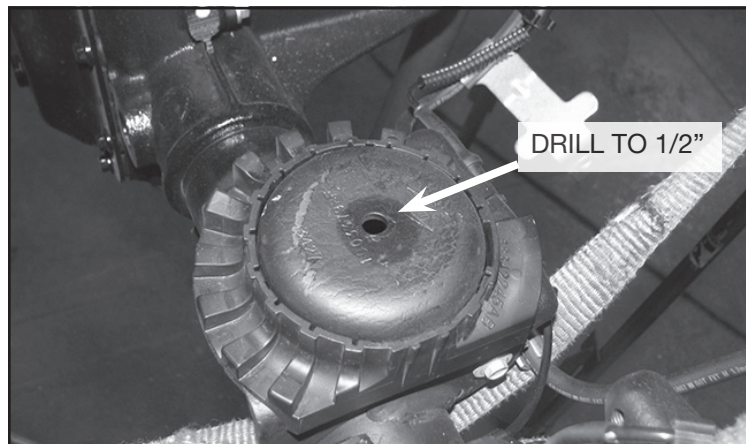

FIGURE 7 - STEP 7
7. On the factory coil spring perch. Use a drill with a 1/2" drill bit and drill out the existing factory hole on both driver & passenger sides. **SEE FIGURE 7**